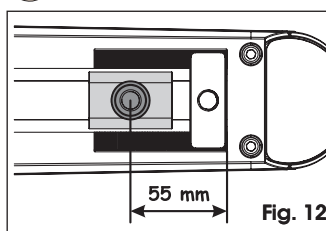
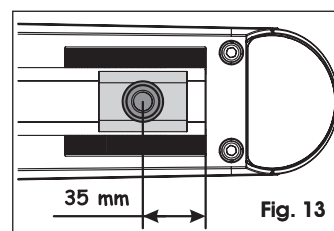

Fig. 12
Fig. 13
4. Check that the front fitting is in the position indicated in figure 12 (with the mechanical stop at closing) or in figure 13 (with no mechanical stop at closing). If this should not occur, the operator must be temporarily powered, in order to bring the fitting into position.